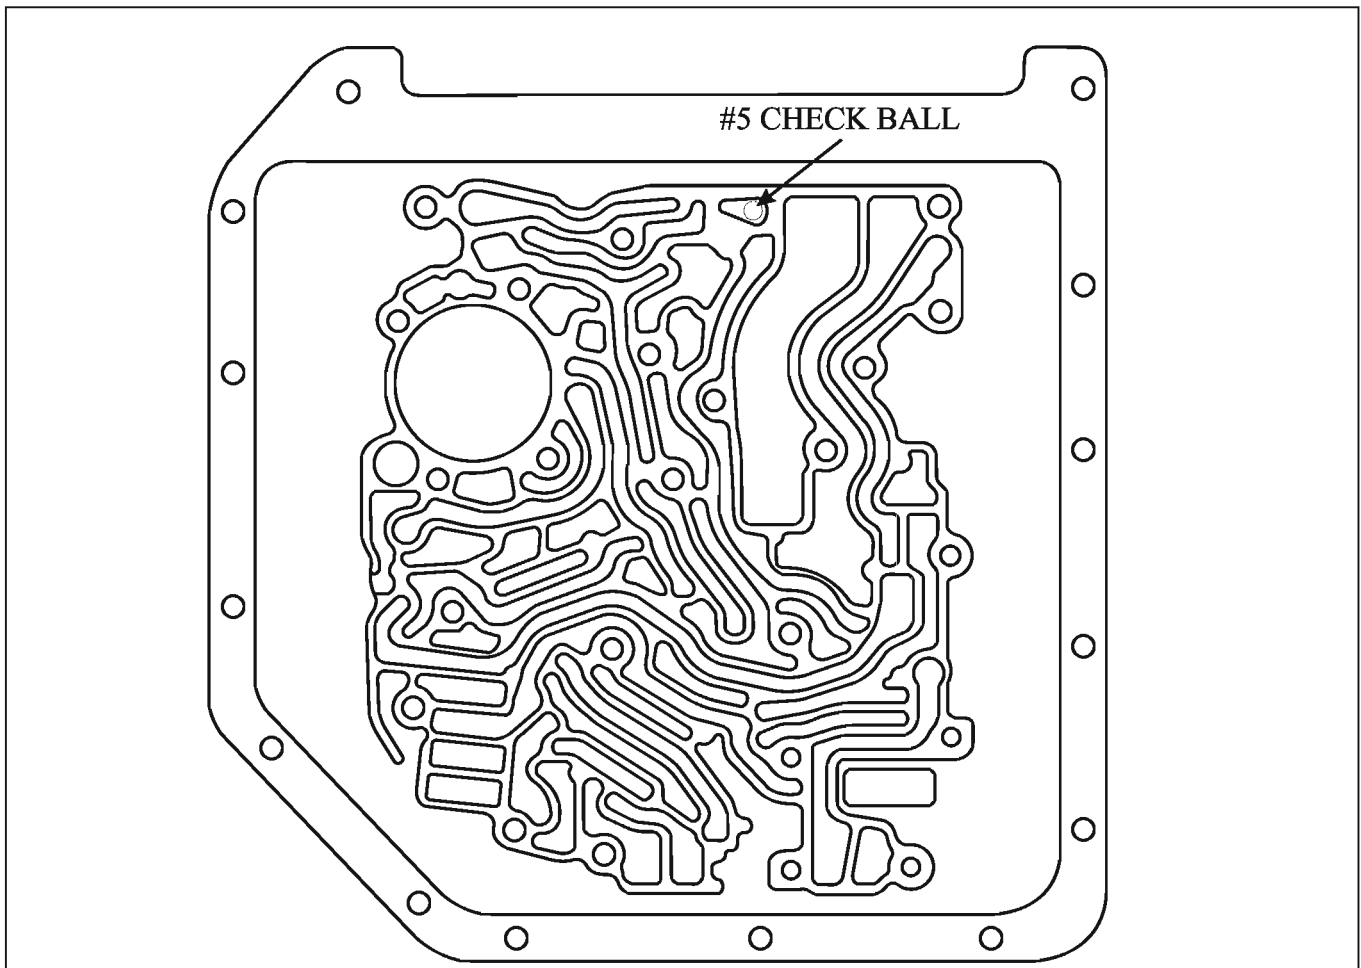

Figure 81
- 8 - Leave the number 5 check ball out of the case, *see figure 81*.